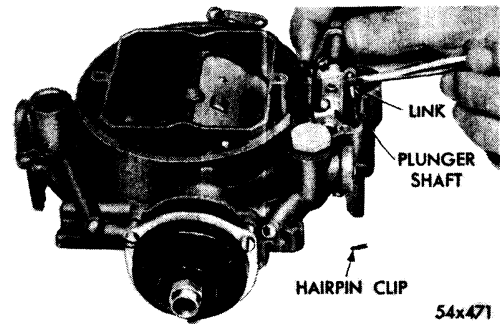
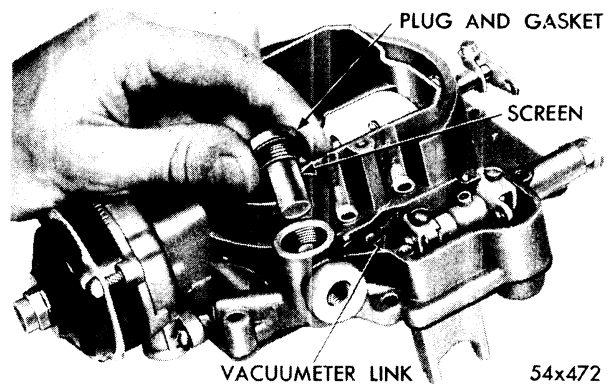

Fig. 13—Removing or Installing Pump Connector Link
Fig. 14—Removing or Installing Filter Screen and Plug
- (6) Invert the carburetor air horn, and remove the hairpin clip from the pump connector link.
- (7) Disengage pump connector link from the accelerator pump arm, as shown in Figure 13.
- (8) Slide the accelerator pump plunger spring and spring guide washer out from under air horn.
- (9) Remove the fuel inlet plug, gasket and screen from the air horn, as shown in Figure 14.
- (10) Loosen the metering rod arm screw then, disengage the vacuumeter piston link from the metering rod arm and withdraw vacuumeter link directly out of metering rod chamber.
- (11) Loosen the screws that hold the metering rod arm and the accelerator pump arm to the accelerator pump shaft.